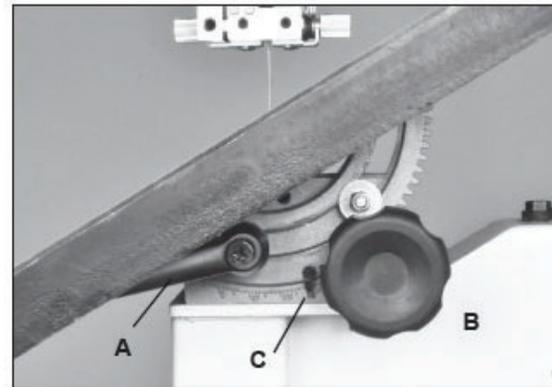

FIGURE 11
1. At the rear of the saw, loosen the Locking Handle on the table trunnion by turning it counterclockwise. **Fig. 11, A.**
2. Turn the Table Tilting Knob to adjust the table to the desired angle. **Fig. 11, B.** Use the angle indicator scale that is cast into the trunnion bracket Support to find the desired angle.